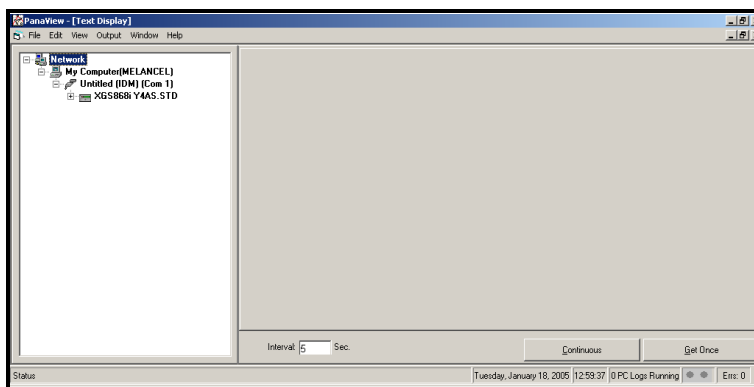

Figure 2-2: The Text Display Window
3. Using the *Window* menu, arrange the open windows in the desired format. For this discussion, Figure 2-2 below shows the *Text Display* window in its maximized (full-screen) size.
**Note:** Figure 2-2 has been compressed both vertically and horizontally for improved clarity.
5. Before actual data values can be displayed in the text pane, activate one of the following data collection modes (see Figure 2-2 on page 2-5):